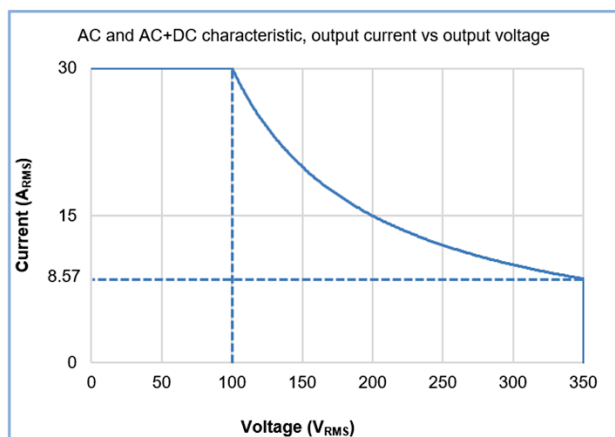
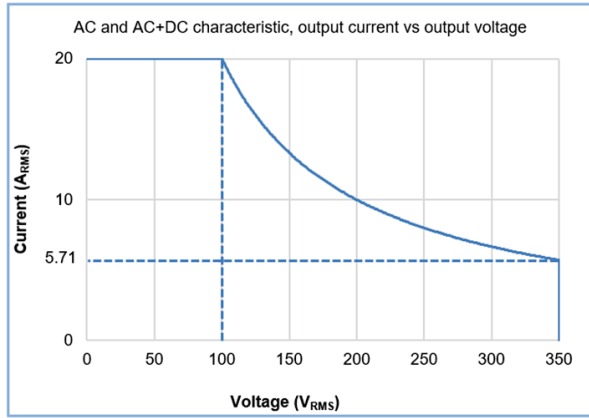

Figure 1: 3kVA AC and AC+DC characteristic
Figure 3: 2kVA AC and AC+DC characteristic
- *3: Maximum RMS voltage setting range is associated with the output current setting. When the output current setting is above 5.714A for 2kVA or 8.571A for 3kVA, the output voltage setting is limited to rated output power. Refer to Figure 1 and Figure 3.